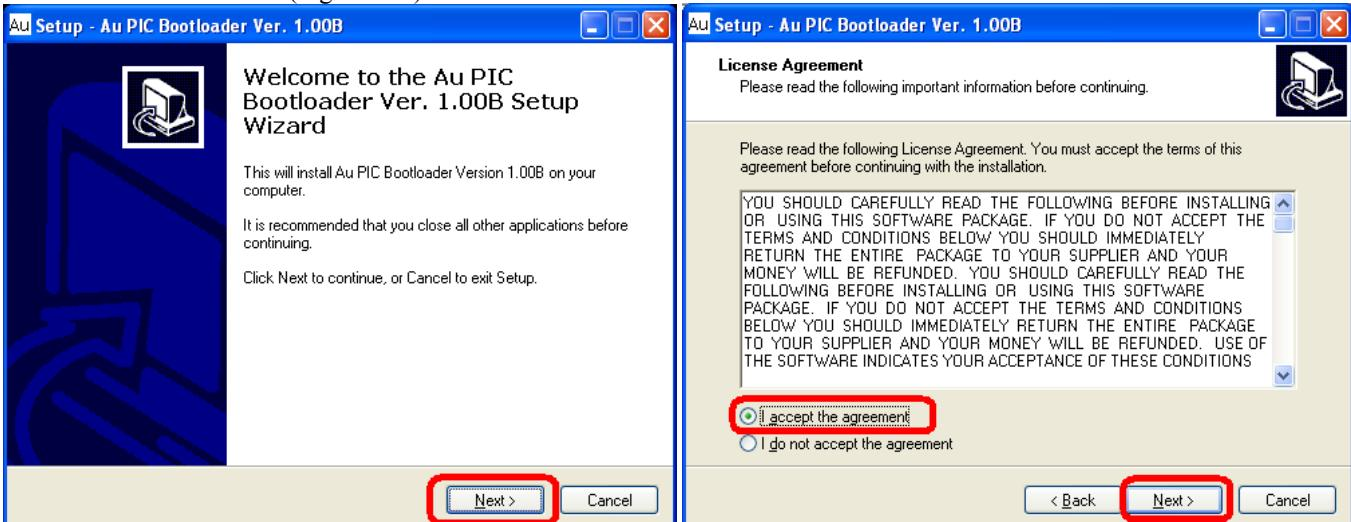

Figure C-2 Figure C-3
2. "Welcome to the Au PIC Bootloader Setup Wizard" window show up, click "Next" (Figure C-2)